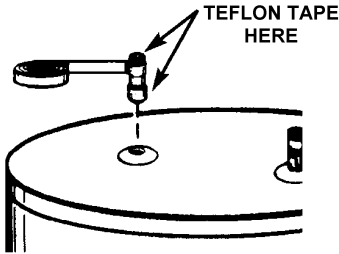

FIGURE 7.
2. Wrap the 3/4" nipples with teflon tape or pipe joint compound and screw into the water heater where it's marked "HOT" and "COLD." See Figure 7. Wrap the other ends of nipples with Teflon tape or pipe joint compound and screw one end of each flexible water connector onto each nipple.
4. Put two or three turns of Teflon tape or pipe joint compound around both the threaded end of the 3/4\" x 3\" nipples, and using a pipe wrench, tighten the nipples into the "HOT" and "COLD" fittings on the water heater. See Figure 7.